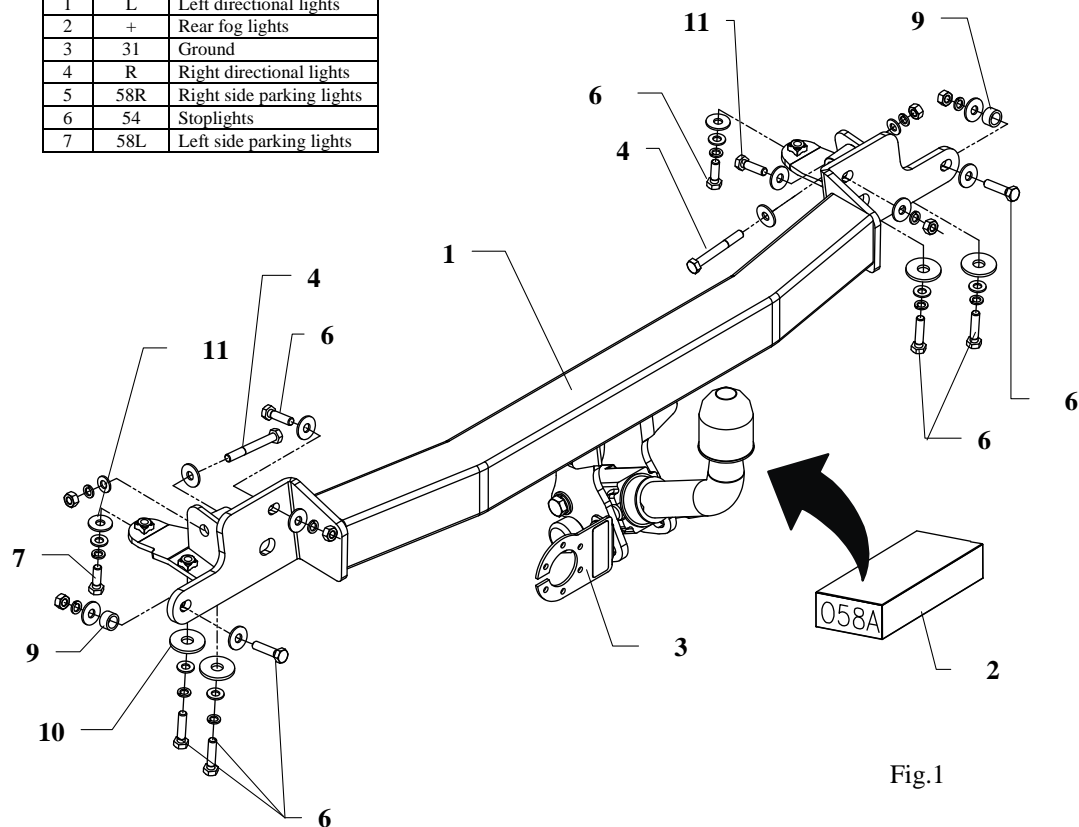

Fig.1
4. Slip main bar of towbar (pos. 1) to rear chassis members and screw using bolts, nuts and sleeves – as shown in the figure 1.
8. Fix body of the automat and place tow-ball according to supplied instruction. Note! Remember to place socket plate (pos. 3) as shown on the drawing 1.